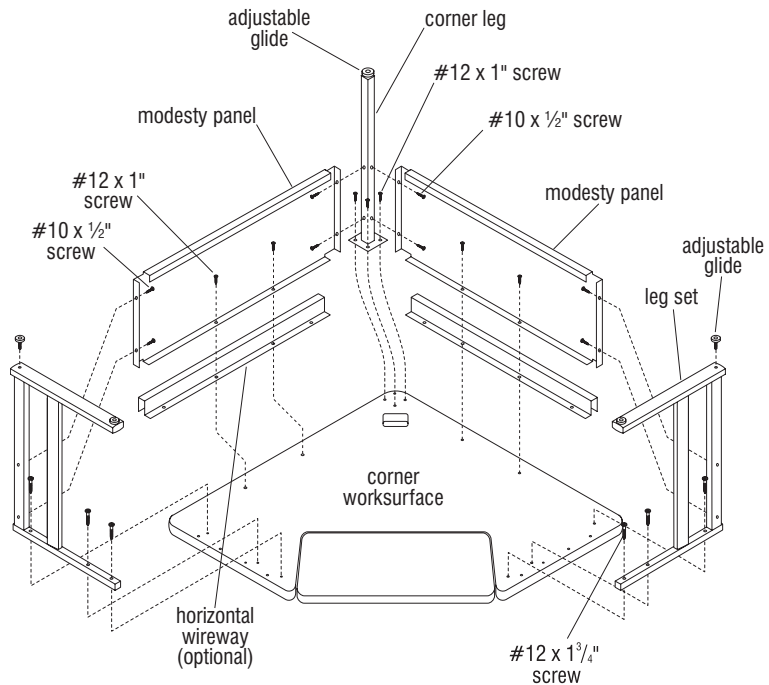

Figure 1
2. Attach two leg sets to worksurface bottom by aligning legs to pre-drilled holes and inserting three #12 x 1³/₄" screws per leg set (Figure 1).
3. Position the corner leg over the pre-drilled holes in the back corner of the worksurface. Be sure the modesty panel mounting holes are oriented as shown. Attach the corner leg to the worksurface with four #12 x 1" screws. Do not tighten at this time (Figure 1).
4. Align the first modesty panel between a leg set and corner leg. If optional horizontal wireways are to be installed to unit, place the wireways between mounting flange of modesty panel and the worksurface, aligning the mounting holes as illustrated. Insert two #10 x 1/2" screws per left and right side of the modesty panel into the leg set and corner leg. Repeat this step for second modesty panel. Tighten all screws attaching the leg sets, corner leg and modesty panel (Figure 1).